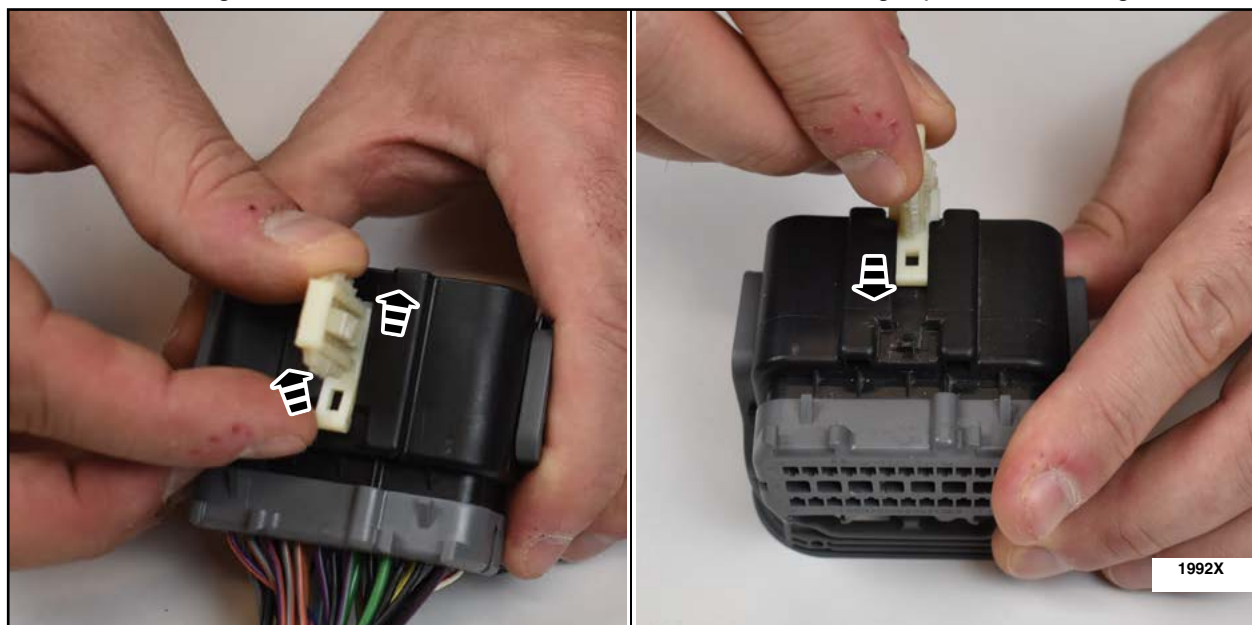

FIGURE 27
3. Transfer the original, C422 female side, connector to frame rail mounting clip as shown in Figure 27.